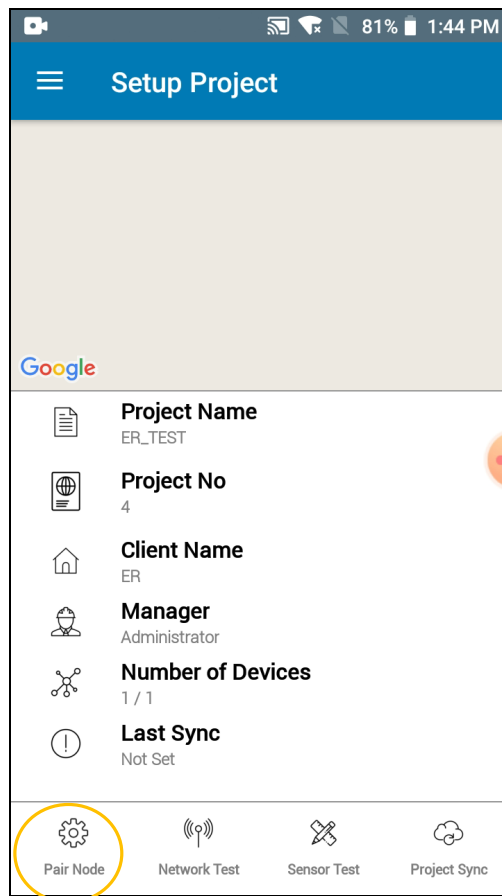

Figure 6-6
- Once downloaded, enter the project. Screen showing project details can be seen as shown in the left figure below. Press "Reset" button on the Node (as shown in figure 6-3). Now click on "Pair Node" on the menu (figure 6-6).